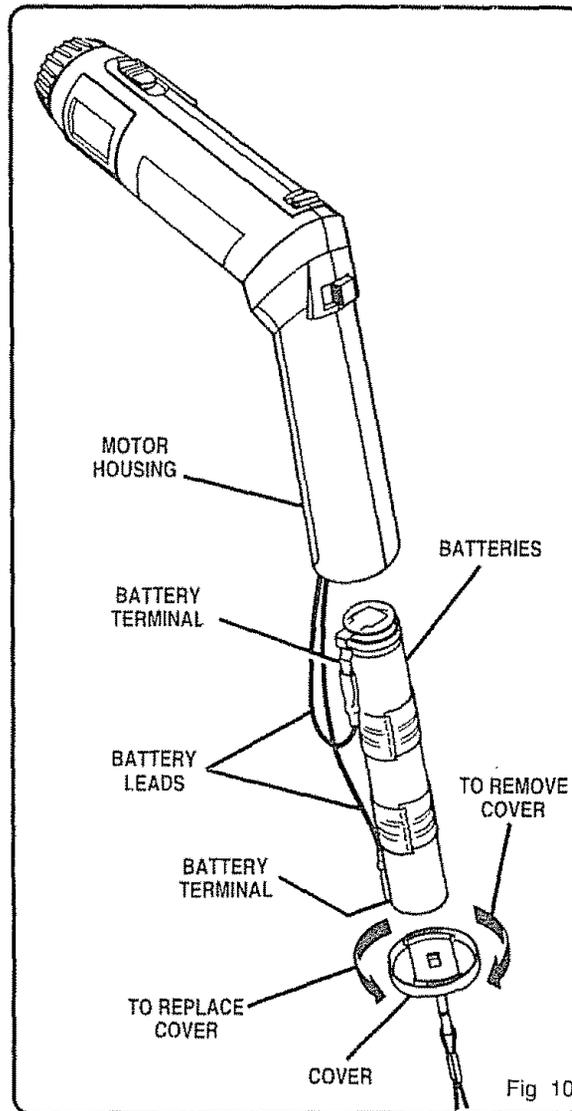

Fig 10
See Figure 10
- Remove cover securing batteries by twisting it in the direction of the arrow as shown in figure 10.